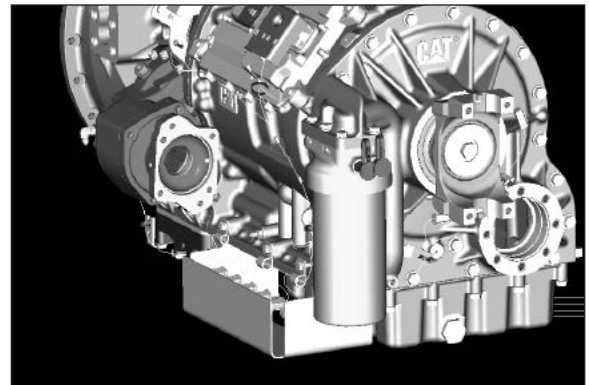

Figure 34
**NOTE:** There are two (2) high pressure ports available. Use the port located on the driver's side of the transmission unless there is an interference issue with a pump or driven object (**Fig. 34**).